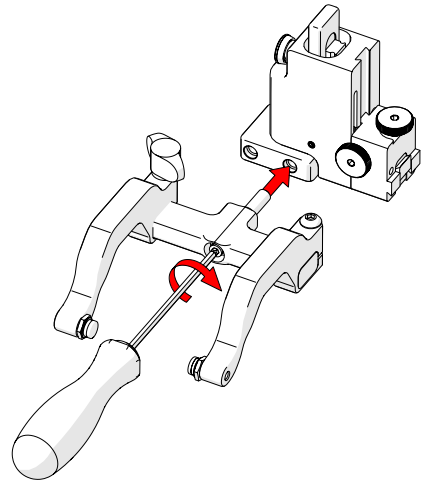

Fig. 140 - Screw into threaded hole
7. Screw the yoke to the probe holder (Fig. 140).